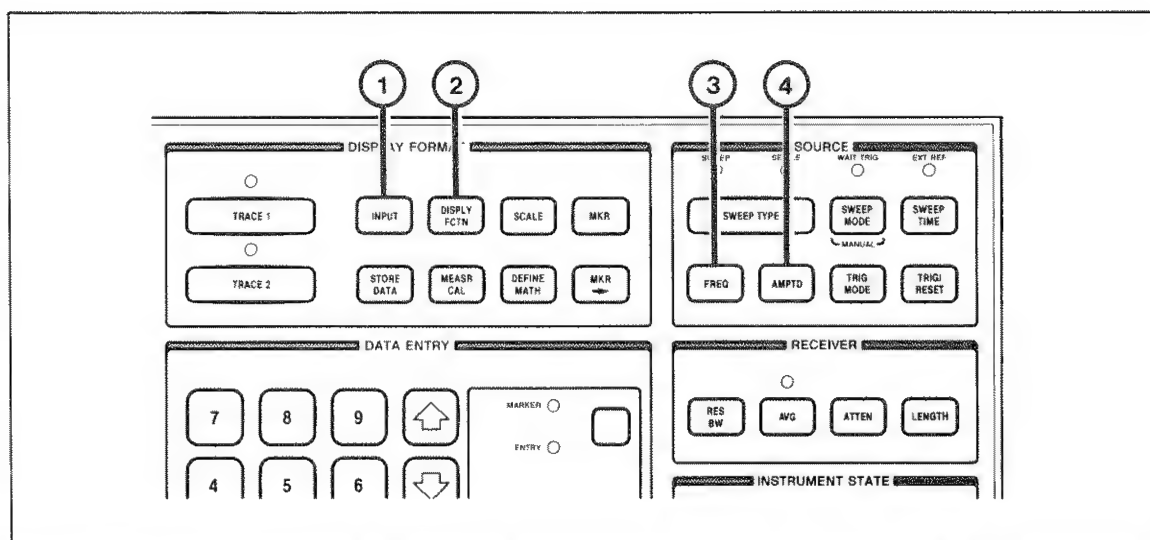

Figure 1•1 Setup Sequence
2. The recommended sequence for setting up a measurement is 1) **INPUT**, 2) **DISPLAY FCTN**, 3) **FREQ**, 4) **AMPTD**. This sequence is a good, general start for setting up an instrument state and should be easy to remember. See the circled numbers in Figure 1•1.